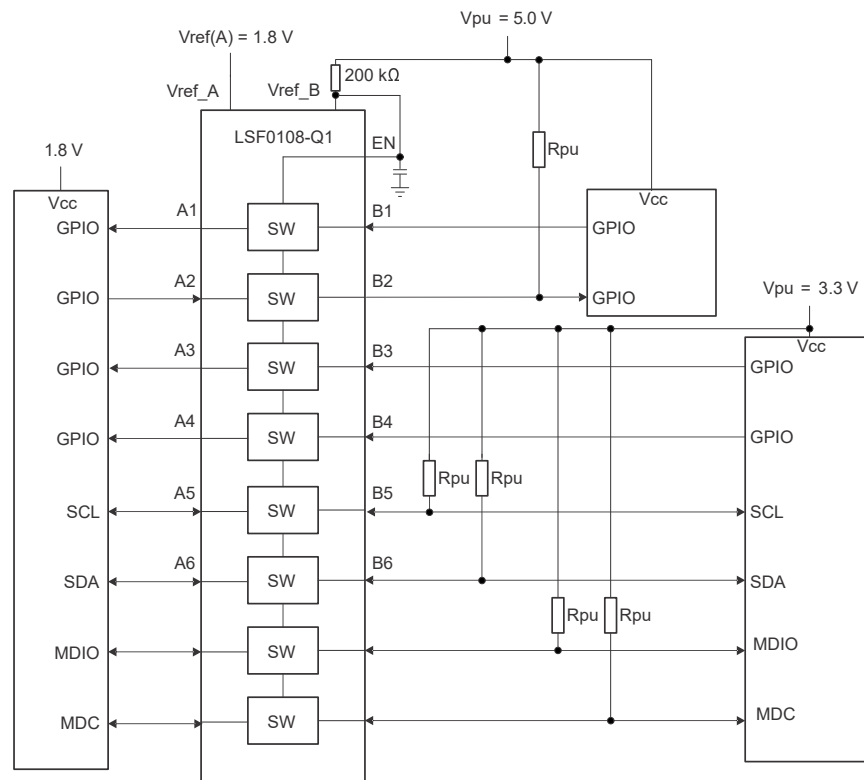

图 9-1. Bidirectional Translation to Multiple Voltage Levels
- VCCB/VCCA are not the same as Vref_B or Vref_A: VCCB refers to the B-side supply voltage supplied to the LSF device, while Vref_B refers to the voltage at the Vref_B pin (pin 7 of 图 9-1) on the other side of the 200 kΩ resistor
As shown in 图 9-1, the A1 and A2 channels have a maximum output voltage equal to V_{ref_A} , and the B1 and B2 channels have a maximum output voltage equal to V_{pu} when V_{ref_B} is connected through a 200-k Ω resistor to a 3.3-V V_{pu} power supply and V_{ref_A} is set 1.8 V.
图 9-1 shows how the reference supply voltage (Vref_A) is connected to the processor core power supply voltage. When Vref_B is connected through a 200 kΩ resistor to a 3.3 V Vpu power supply, and Vref_A is set 1 V. The output of A3 and B4 has a maximum output voltage equal to Vref_A, and the bidirectional interface (Ch1/2, MDIO) has a maximum output voltage equal to Vpu.